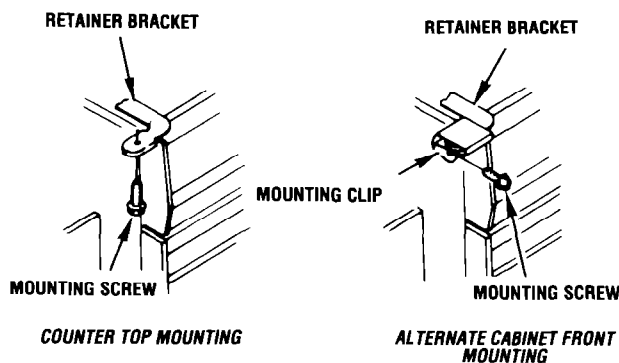

FIGURE 13
13. Fasten the retaining brackets to the underside of the counter top with the screws provided. Use auxiliary clip for fastening to cabinet front when counter top mounting method is not permissible. See Figure 13.